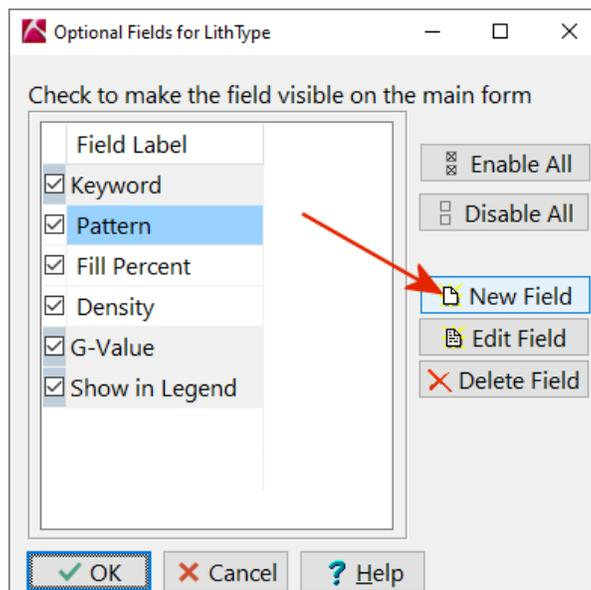

Figure 4
Step 3. Select the New File option from the Optional Fields menu (Figure 4).